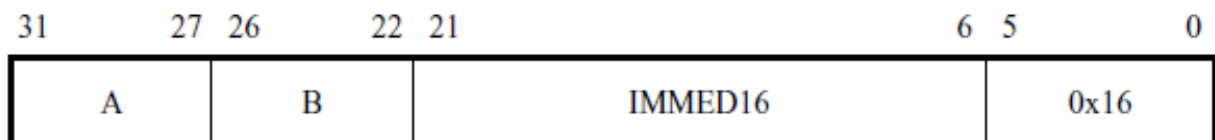

Figure 16: Format for the `blt` instruction.
1. Derive the machine code representation of the instruction `blt r7, r8, LOOP`. In the *Nios II Processor Reference Handbook* ([6]), we can find that the `blt` instruction has the format shown in Figure 16. Use registers r7 and r8 as registers A and B, respectively, and determine the branch offset needed to branch to the instruction at location LOOP.